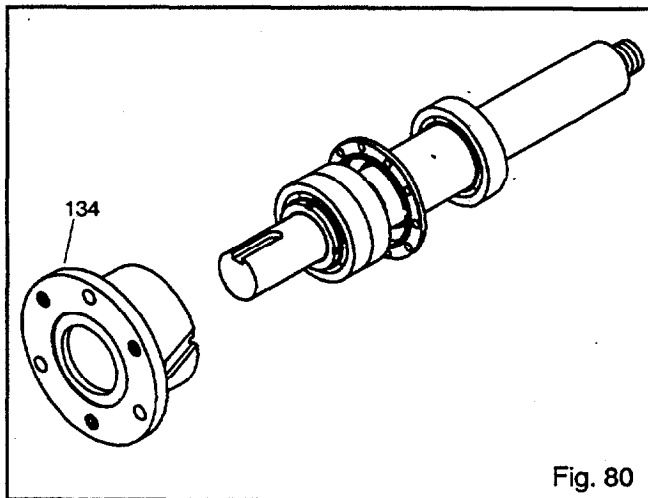

Fig. 80
10. Install bearing housing (134) onto shaft/bearing assembly (Fig. 80).